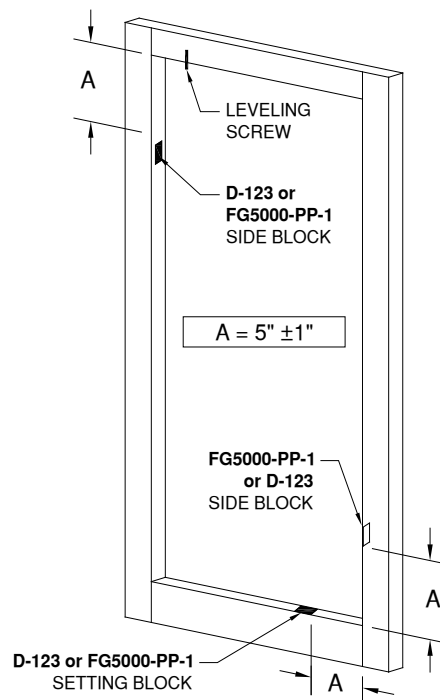

Figure 38: Locating Setting Blocks / Side Blocks
13.1.2 Install **FG5000-PP-1** or **D-123** Setting Blocks / Side Blocks per Figure 38. The blocks are adhesive backed for easy installation. Blocks may be doubled as required to compensate for glass tolerances.